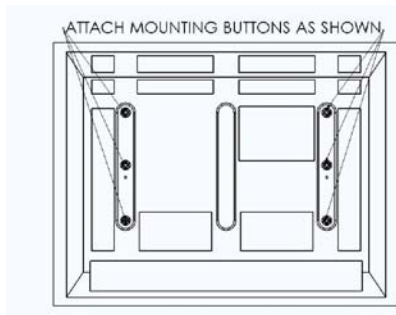

Figure 2
1. Attach mounting buttons to plasma utilizing the enclosed button head cap screws, mounting buttons, And 1 spacer under each button (See Figures 2 & 3).